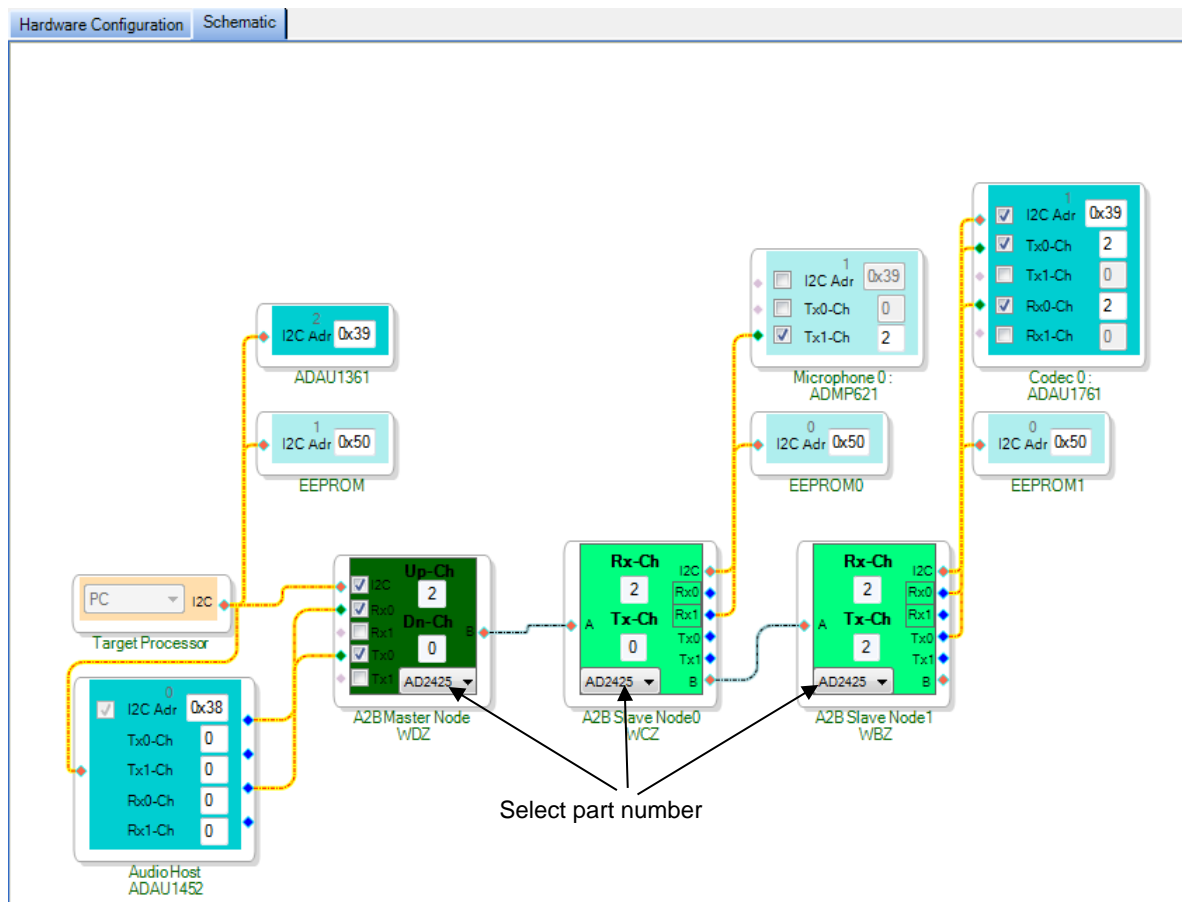

Figure 16: A2B Schematic tab
6. Drag icons from Tree Toolbox and connect the blocks to make an A2B schematic as shown in the Figure 16. Select the variant by clicking on the drop-down.